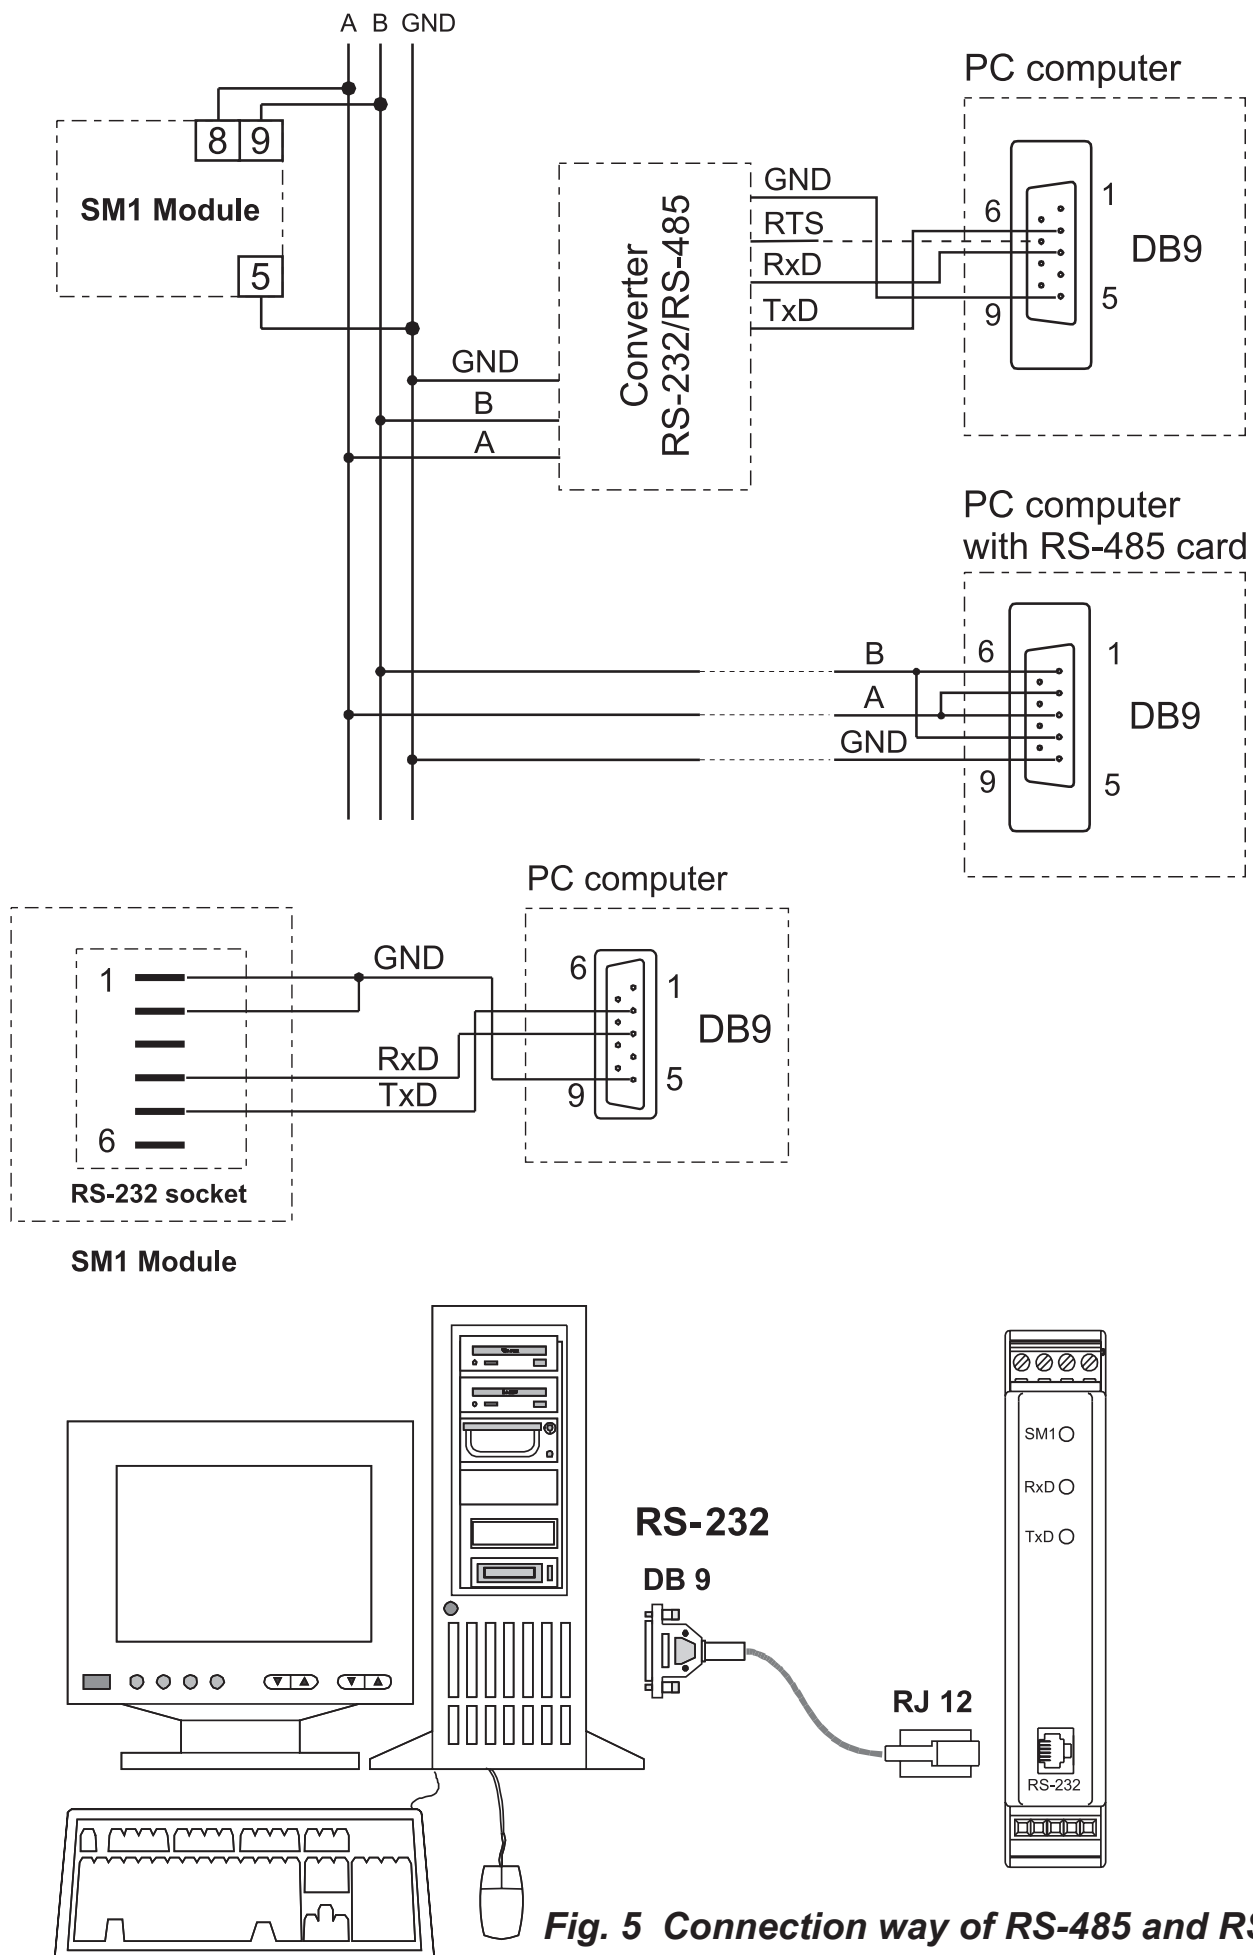

Fig. 5 Connection way of RS-485 and RS-232 interfaces
- The RS-232 socket serves only to connect the device (Fig.5) working with the MODBUS protocol. When the module is not used place the hole plug in the RS-232 socket of the module.
The way of the interface connection is given in the user's manual (fig.5). To obtain the correct transmission, it is necessary to connect **A** and **B** lines in parallel with their counterparts in other devices. The connection must be carried out with a screened wire. The screen must be connect to the protective terminal in a single point. The **GND** line serves to the additional protection of the interface line at long connections. One must connect it to the protective terminal (it is not necessary for the correct interface work). To obtain the connection with the PC computer through the RS-485 port, an RS-232/RS-485 converter (e.g. PD51 of Lumel's production) or an RS-485 interface card is indispensable. The marking of transmission lines for the card in the PC computer depends on the card manufacturer. To obtain the connection through the RS-232 port, the wire added to the module is sufficient. The connection way of both ports (RS-232 and RS-485) is shown on the fig. 5.